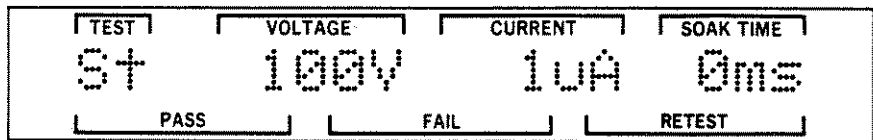

Figure 3-87. Stress Test Screen
STEP 4. Press the DOWN pushbutton to display the Stress Test screen. Figure 3-87 is an example of this screen.